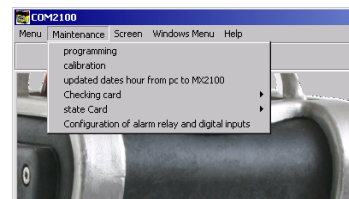

Figure 38: *Maintenance* menu
- From the *Maintenance* menu (Figure 38), select *Programming*
- From the Maintenance menu (Figure 38), select Calibration.
- From the *Maintenance* menu (Figure 38), select the option *Update the BM 25A/AW date and time from a PC*.
- From the *Maintenance* menu (Figure 38), select '*Checking card*'.
From the *Maintenance* menu (Figure 38: *Maintenance* menu) select 'State card' and follow the same steps as described in the *Monitoring Report menu* (.etx files).